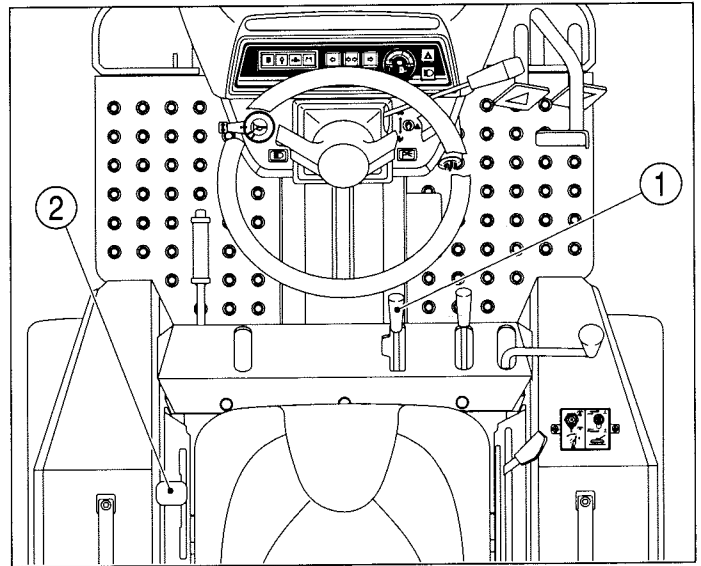

FIG. 26
NOTE: *FIG. 26: The PTO switch (Fig. 25) must be used in conjunction with the rear PTO selector control lever (1) or mid-PTO selector control lever (2), when a PTO is used. Refer to Operation Section of this book for complete details.*